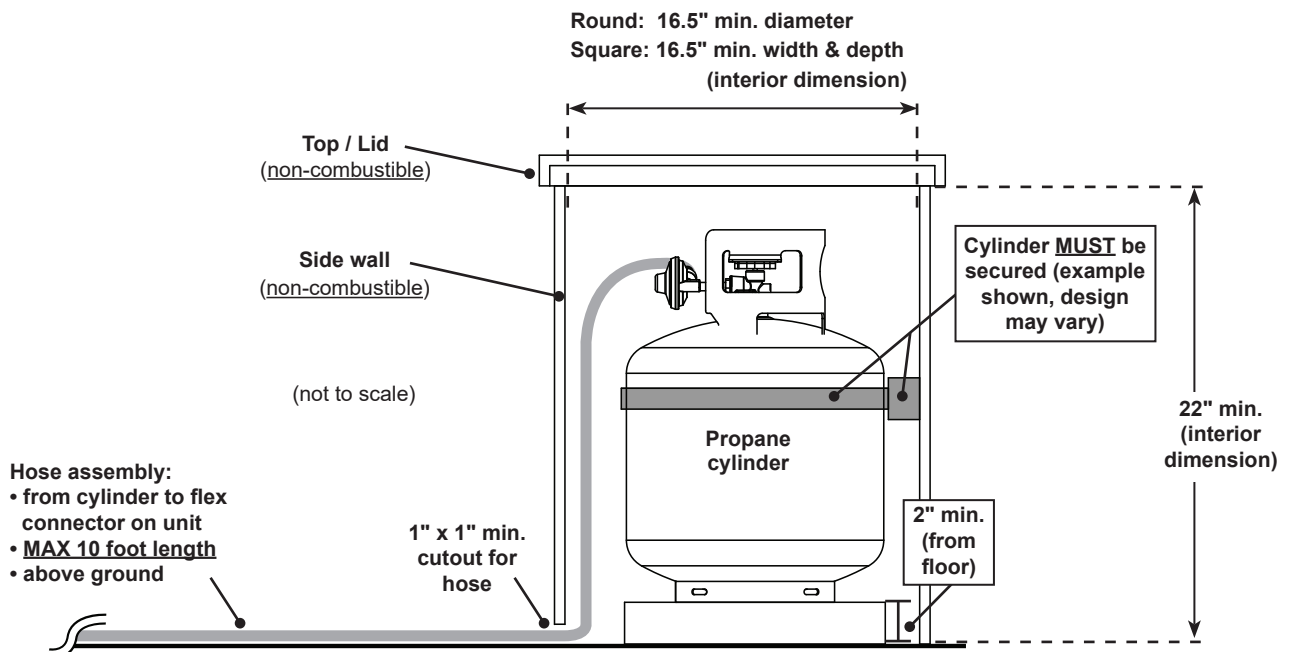

Fig. 17-1 Propane cylinder enclosure specifications (side view)
The cylinder enclosure can be constructed according to your individual preference, while following all guidelines found in this manual. The enclosure **MUST** (see Fig. 17-1):
- have minimum dimensions as illustrated in Fig. 17-1